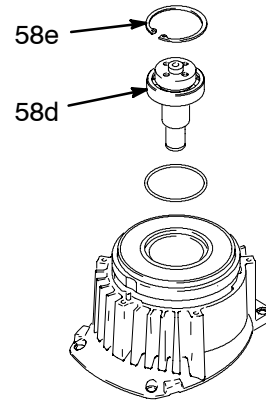

Fig. 12 8703B
6. Fig. 12. Remove retaining ring (58e).
4. Install armature (89) on engine drive shaft.
5. Install four screws (2) and lockwashers (43) with torque of 125 in-lb.
6. Fig. 12. Tap pinion shaft (58d) in with plastic mallet.